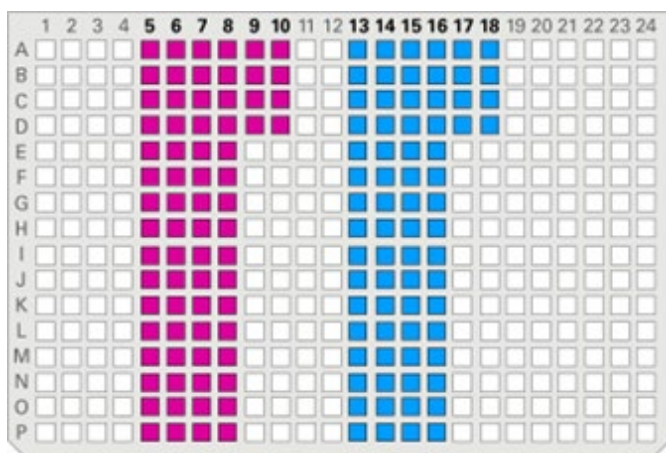

Figure 5. Rehydration buffer-dispense pattern for the Shasta Long Indexing Primer Set - A plate.
8. Use a multichannel pipette to add 50 µl rehydration buffer into each well as shown in the 384-well plate layout in Figure 5 (72 pink wells + 72 blue wells = 144 total wells).